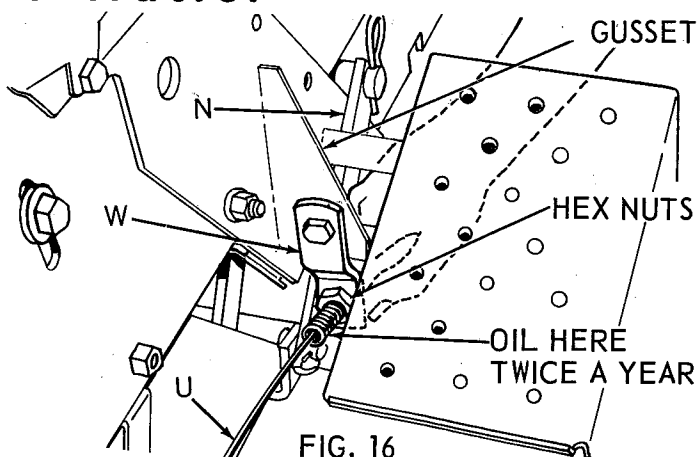

FIG. 16
Refer to Fig. 16. Swing cable (U) around so that it will be between R.H. front pivot link (N) and R.H. front tractor tire.
11. Refer to Fig. 16 & 17. Slip cable clevis (A) with pin on clutch lever (mower) (V) on tractor, as shown. Attach clutch cable anchor (W) to gusset Fig. 16 on R.H. foot rest of tractor, with a 3/8 x 1 hex bolt, lockwasher, and hex nut provided. NOTE: Make sure cable anchor (W) hangs straight down as shown. Tighten bolt securely. Make sure hex nuts on cable are tight against cable anchor.
3. Refer to Page 6, Fig. 16. Lubricate cable with light oil, twice a year.